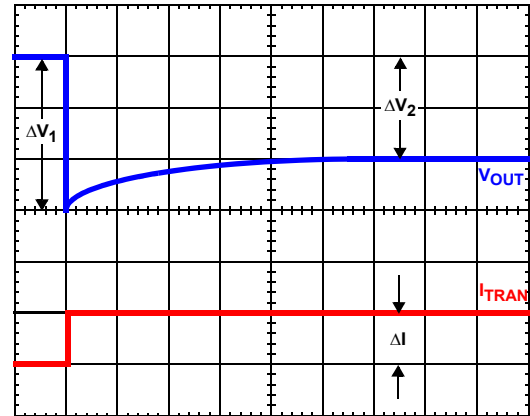

FIGURE 19. TIME CONSTANT MISMATCH BEHAVIOR
Due to errors in the inductance or DCR it may be necessary to adjust the value of  $R_{COMP}$  to match the time constants correctly. The effects of time constant mismatch can be seen in the form of droop overshoot or undershoot during the initial load transient spike, as shown in Figure 19. Follow the steps below to ensure the R-C and inductor L/DCR time constants are matched accurately.
2. Record  $\Delta V_1$  and  $\Delta V_2$  as shown in Figure 19.